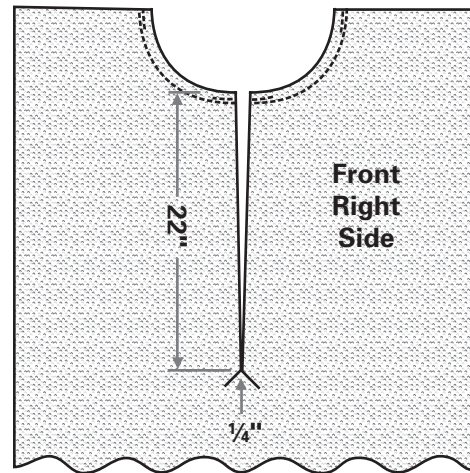

Fig. 4-4
- To mark the zipper placement, put the front rectangle of the robe on a flat surface. Draw a 22-inch (56-cm) line from the neck edge down the center front. Cut along the line and cut a 1/4-inch (6-mm), inverted "V" at the base. (Fig. 4-4)